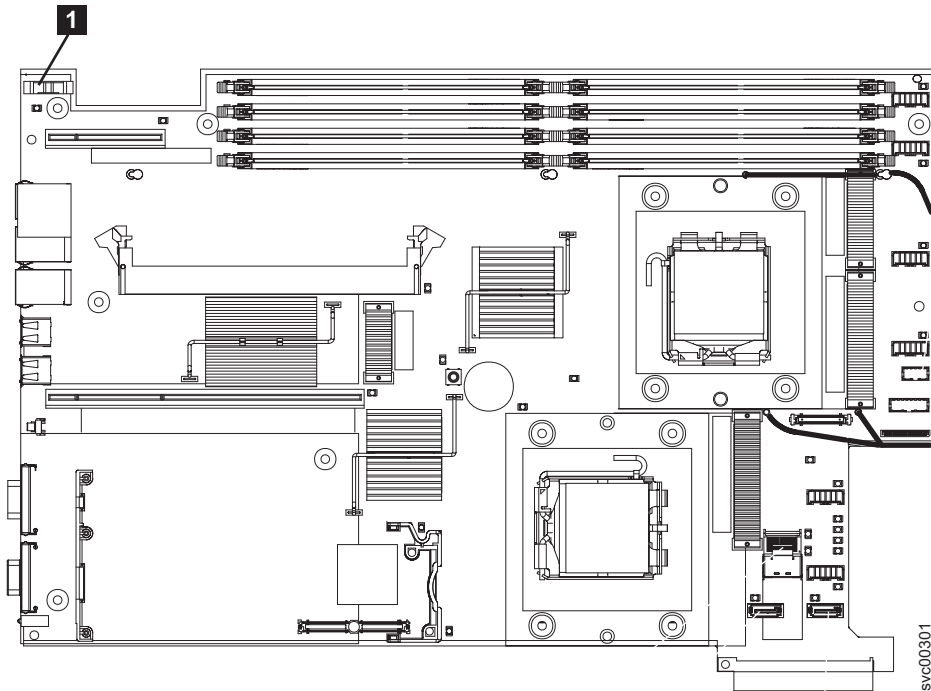

Figure 137. Location of the SAN Volume Controller 2145-8G4 CMOS battery holder
4. Locate the battery **1** on the system board. Figure 137 on page 132 shows the location of the battery.